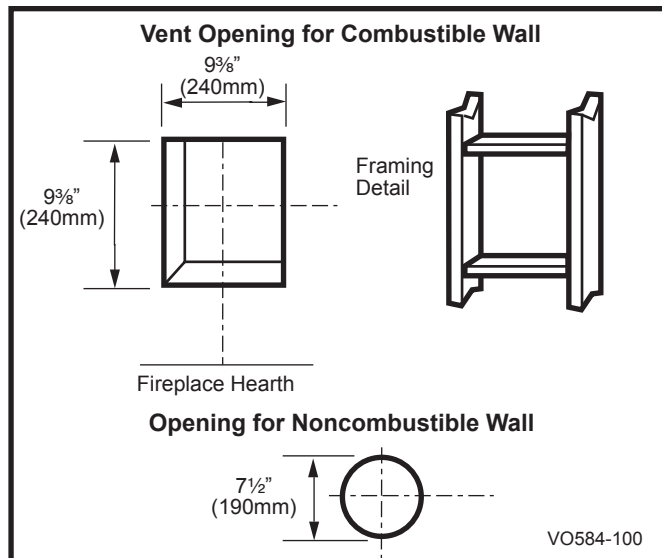

Fig. 24 Locate vent opening on wall.
Locate vent opening on the wall. It may be necessary to first position the fireplace and measure to obtain hole location. Depending on whether the wall is combustible or noncombustible, cut opening to size. (Fig. 24) For combustible walls first frame in opening.
Combustible Walls: (Fig. 24) Cut a 9 $\frac{3}{8}$ "H x 9 $\frac{3}{8}$ "W (240 x 240 mm) hole through the exterior wall and frame as shown.
Noncombustible Walls: (Fig. 24) Hole opening must be 7 $\frac{1}{2}$ " (190 mm) in diameter.
1. Establish vent hole through the wall. (Page 17, Fig. 24)